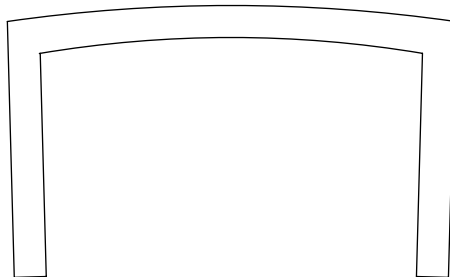

Figure 2.26
- Carefully measure the internal width of the channel at the corners – not the open ends. The reason for this is that channel is rarely square (usually as a result of being clamped in a vice whilst you cut it to length) (see Figure 2.26).